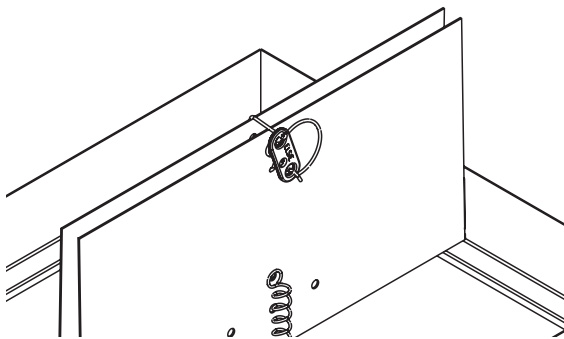

Figure 2
- 1) CRD's are shipped from the factory with the blades in the closed position. The fusible link must be installed at the time of installation such that the blades are held open as shown in **Figure 2**.